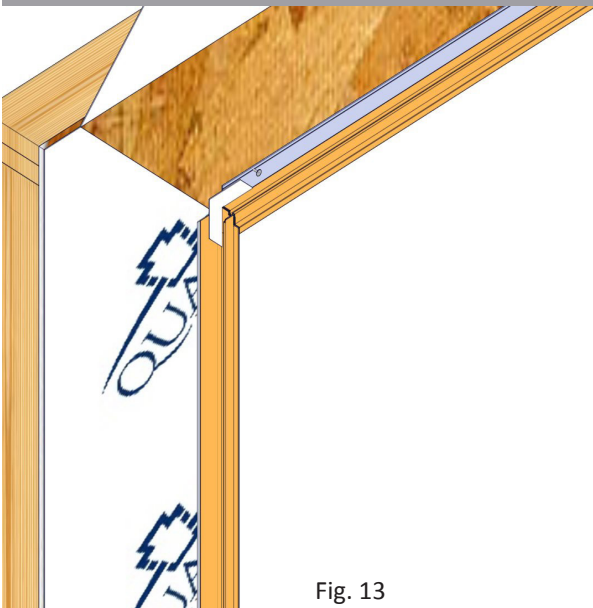

Fig. 13
5. Temporarily tack the door into place using 2" galvanized roofing nails through the pre-punched hole on one top corner of nailing flange. Do not drive the nail in fully. (Fig.13)